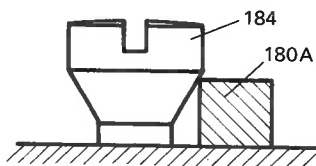

Fig. 47
5. Adjust phasing screw to proper pre-phasing position by turning screw *clockwise* until the top of the pawl bridge is lined up with the top of the angle of the phasing screw. (Fig. 47)